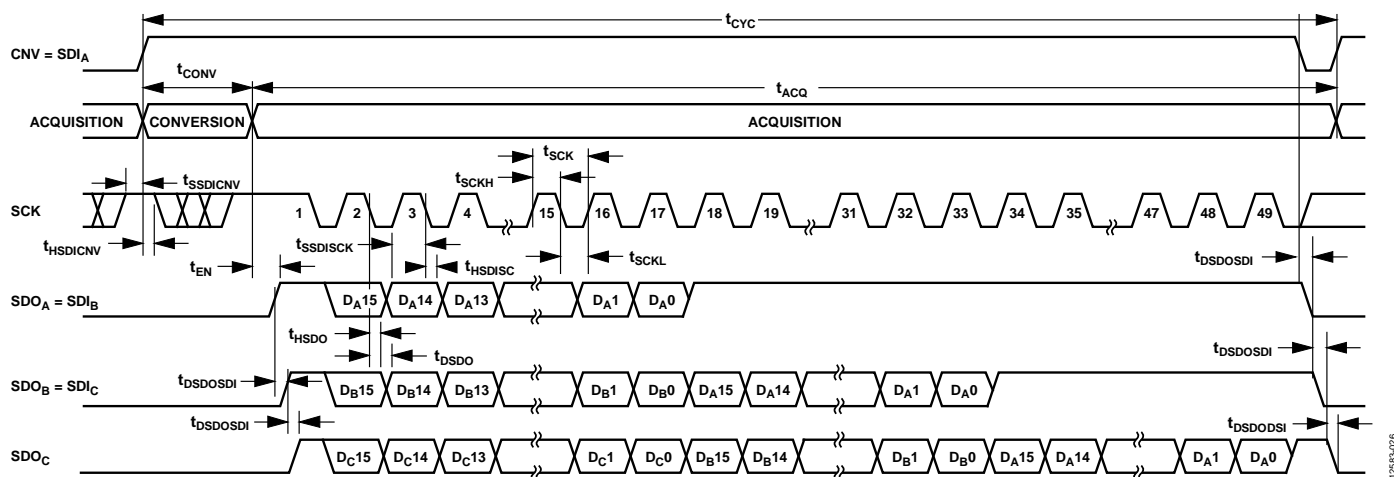
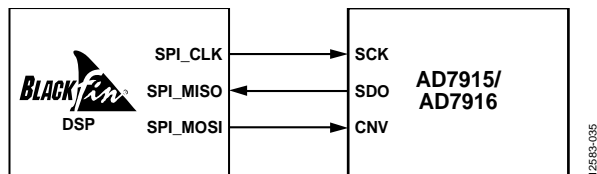

Figure 45. Chain Mode with Busy Indicator Serial Interface Timing
Figure 46. Typical Connection to Blackfin SPI Interface
- in chain mode if SCK is high during the CNV rising edge (see Figure 46).
A connection diagram example using three AD7915/AD7916 devices is shown in Figure 45, and the corresponding timing is given in Figure 46.
completed their conversions, the SDO pin of the ADC closest to the digital host (see the AD7915/AD7916 ADC labeled C in Figure 45) is driven high. This transition on SDO can be used as a busy indicator to trigger the data readback controlled by the digital host. The AD7915/AD7916 then enter the acquisition phase and powers down. The data bits stored in the internal shift register are clocked out, MSB first, by subsequent SCK falling edges. For each ADC, SDI feeds the input of the internal shift register and is clocked by the SCK falling edge. Each ADC in the chain outputs its data MSB first, and  $16 \times N + 1$  clocks are required to readback the N ADCs. Although the rising edge can be used to capture the data, a digital host using the SCK falling edge allows a faster reading rate and, consequently, more AD7915/AD7916 devices in the chain, provided that the digital host has an acceptable hold time.
The AD7915/AD7916 can easily connect to a Blackfin® DSP SPI or SPORT. The SPI configuration is straightforward using the standard SPI interface, as shown in Figure 46.